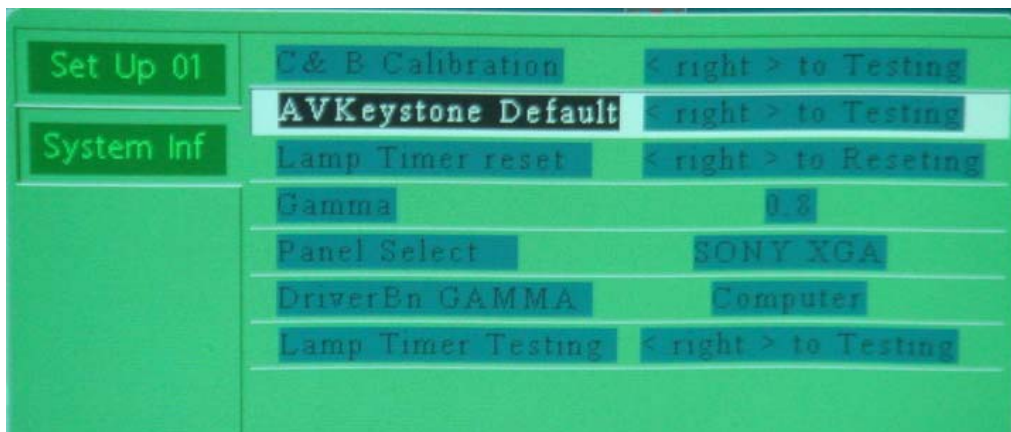

fig 6
- c. Select page "System Inf " as fig 6